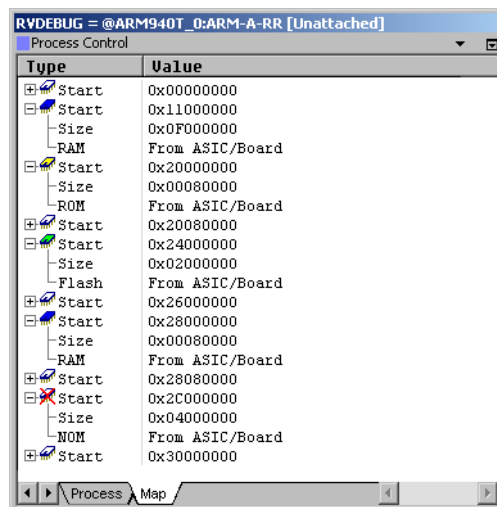

Figure 6-3 Colors in the memory map
5. Click on the plus signs to expand the entries, shown in Figure 6-3 on page 6-9.
For example, the first entry in the memory map shows Start. See Figure 6-3 on page 6-9) if the memory access rule is defined as Any. Colored icons are used to show the type of memory defined, see *Display colors* on page 6-8.
When using the **Map** tab to view the memory map, RealView Debugger uses colored icons to make the display easier to read and to highlight the different memory definitions, shown in the example in Figure 6-3 on page 6-9.